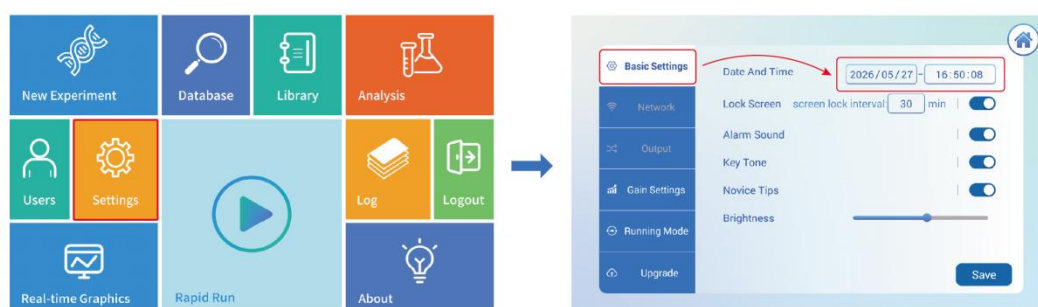
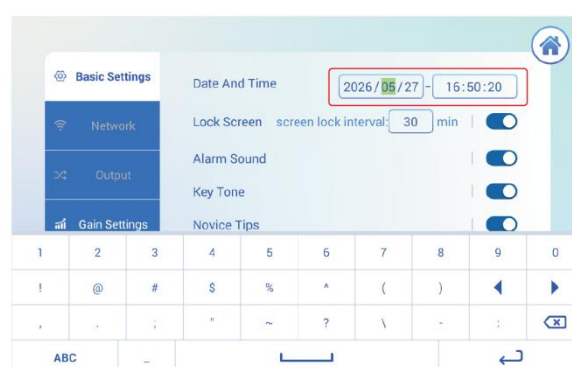

Figure 4. Setting Interface
Figure 5. Time Setting
- Time setting: Select '**Settings**' on the main interface, then select '**Basic Settings**' (Figure 4). Adjust the device date and time to local time via the Date and Time fields (Figure 5). ('Admin' account access only.)